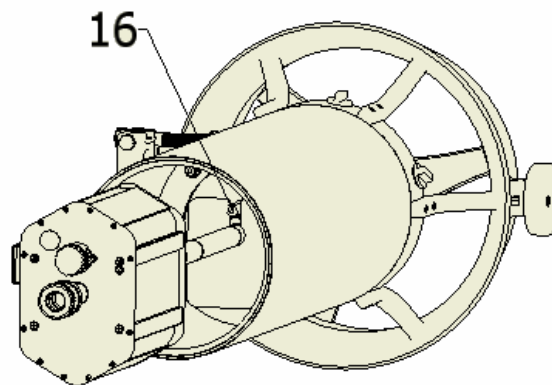

Figure 5
With the HDV in vertical position, repeat the battery extraction procedure in reverse order, being careful to insert the anti-rotation pin (16) in the battery hole. (see fig. 5)
Insert the ballast on the rod (13) also inserting the anti-rotation pin (16) (Fig. 5).